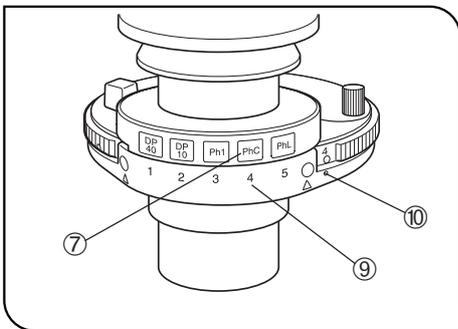

Fig. 50
6. Place the index ⑦ provided with each optical element in the index insertion hole having the same number ⑧ as the number of the position ⑨ in which the corresponding optical element is mounted. (Figs. 50 & 51)
⊙ The optical element with the number indicated by marking • ⑩ is engaged in the light path. (Fig. 50)